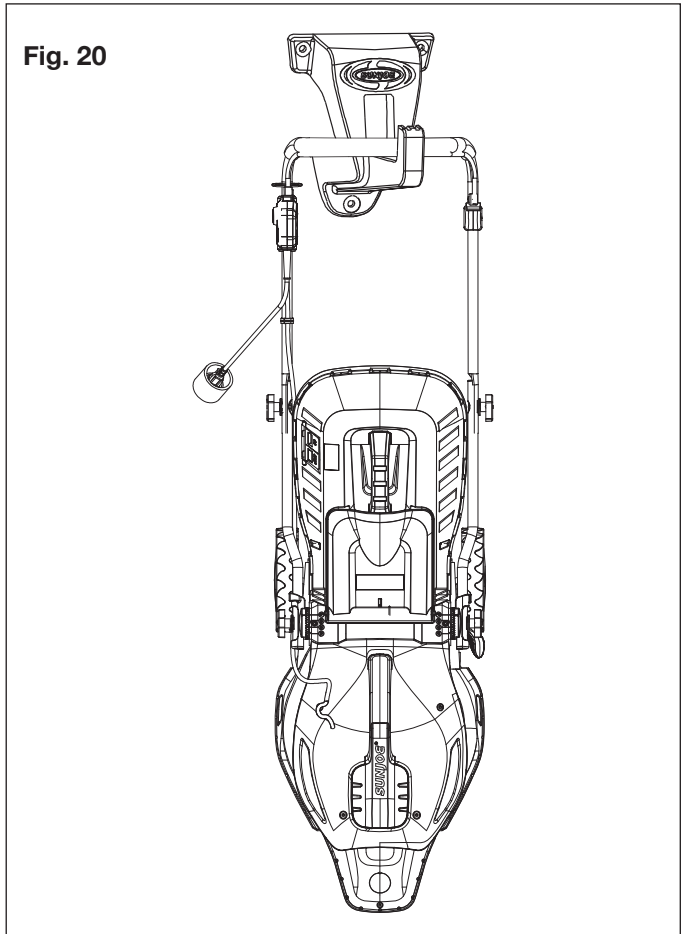

Fig. 20
- iv) Hang the mower on the wall (Fig. 20).